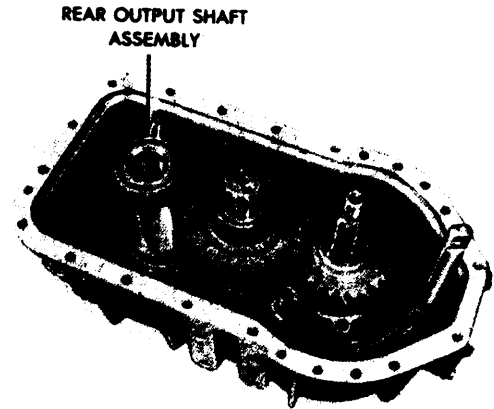

Figure 4-10. Rear Output Shaft Assembly.
k. *Rear Output Shaft Assembly.* With the case cover removed, lift the rear output shaft assembly from the transfer case. (See fig. 4-10.)